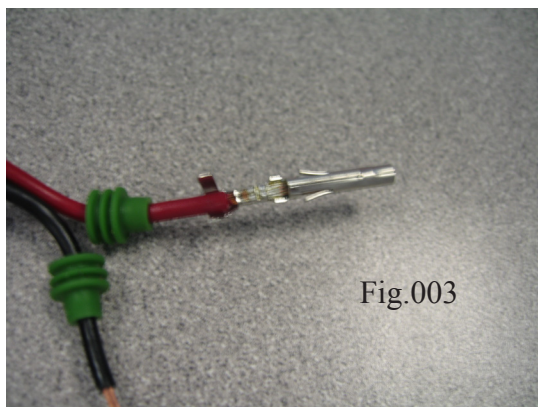

Fig.003
Step 4: Slide rubber grommet onto wire before crimping. (Fig 003) The round non ribbed side of the rubber grommet needs to face the newly stripped wire.
Step 5: Slide the metal contact back on crimping it down, leave the two large prongs sticking out. (Fig 003 again)